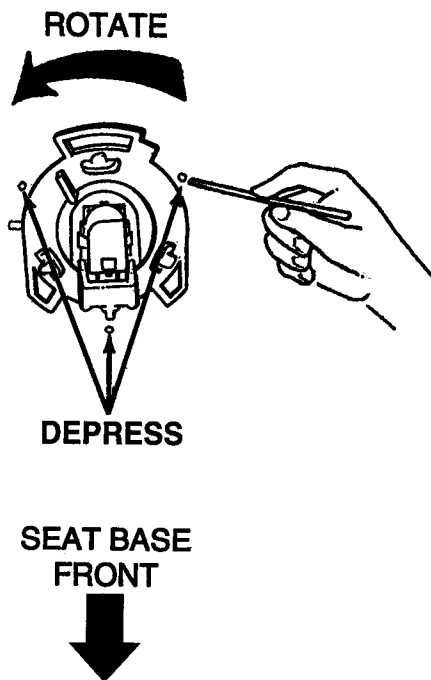

Figure 5-13. Seat Switch Removal (All Models).
- a. While applying light counterclockwise pressure on the switch, release the switch locking fingers by inserting a small punch (or similar object) into each of the three small holes in the seat pan (see Fig. 5-13) and lightly depressing the fingers.